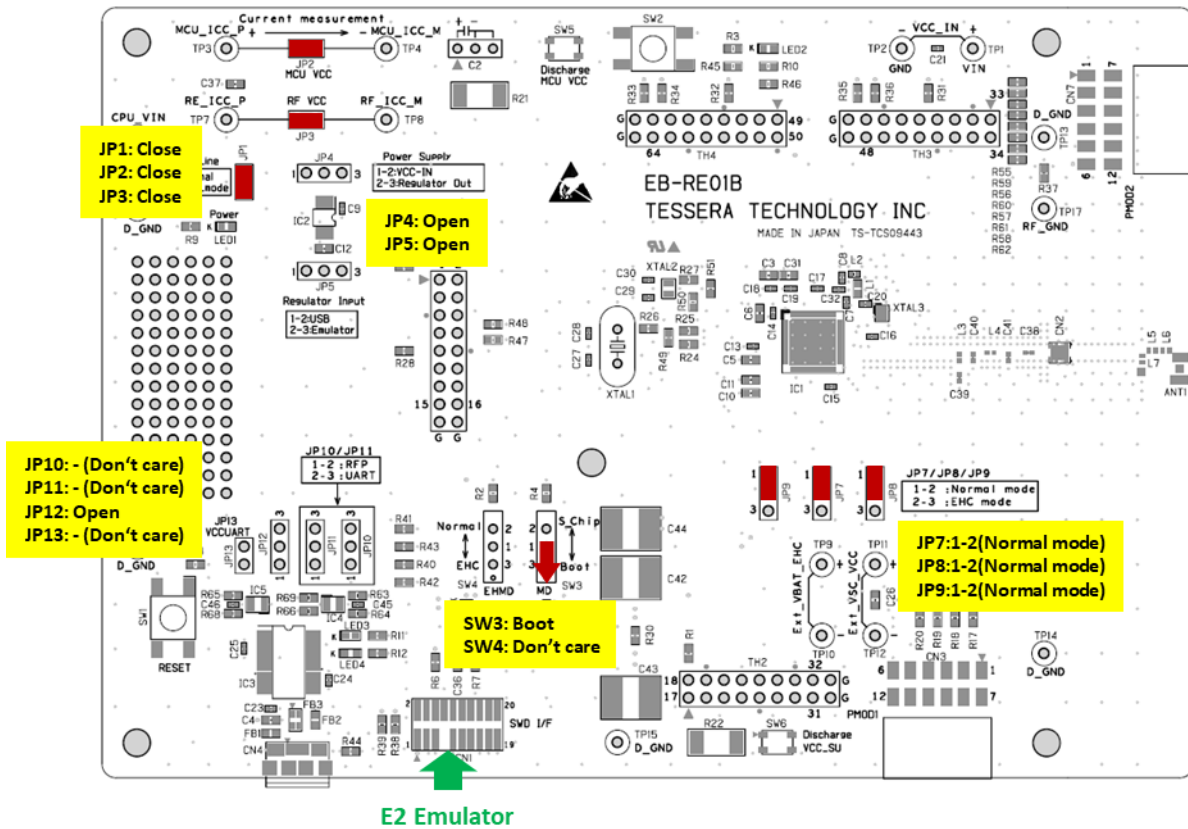

Figure 4-5: SCI boot (via E2 emulator) Jumper pin switch settings (board)
1. Make the connection as shown in Table 4-6, Figure 4-5, Connect the emulator connector (CN4) of the EB-RE01B board to the PC with an emulator.